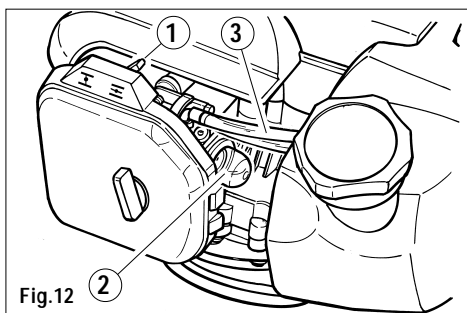

Fig. 12
- 3) Lift the choke lever located to the right of the air filter cover (fig. 12 part. 1) and place it in position |↗|.
- 4) Repeatedly press the primer bulb (fig. 12 part. 2) down until the fuel returns to the tank through the second transparent hose (fig. 12 part. 3).
- 8) Push the choke lever down |↓| (fig. 12 part. 1).